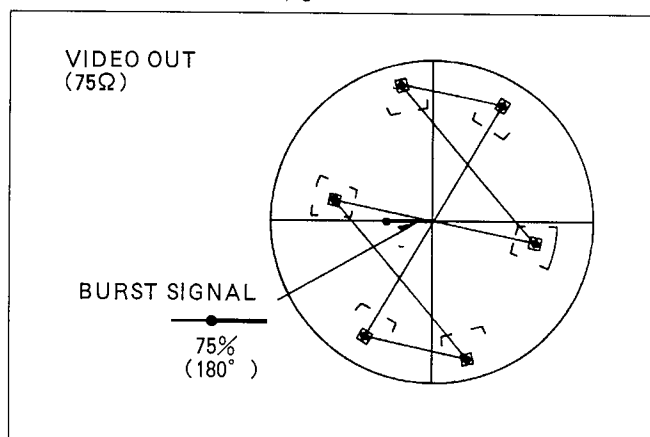

Figure E29
SPEC.	FIG. E29
2. Adjust VR8806 that the burst signal becomes 75% (180°) as shown in Figure E29.